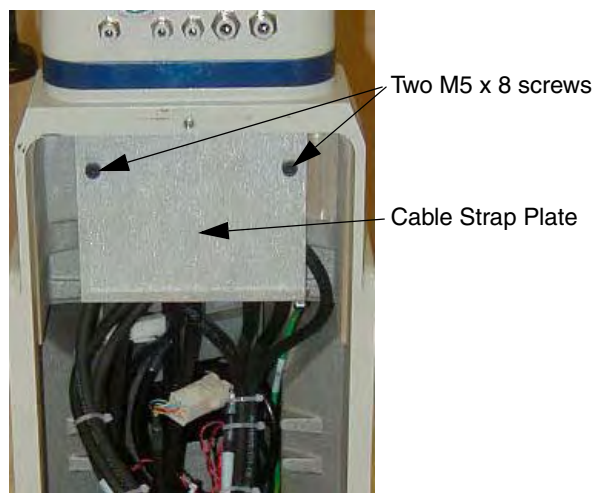

Figure 6-10. Removing the Cable Strap Plate
11. Remove the cable strap plate by removing two screws and split washers. See Figure 6-10. This allows the harness to move when you lift the J1 cover in the next step.